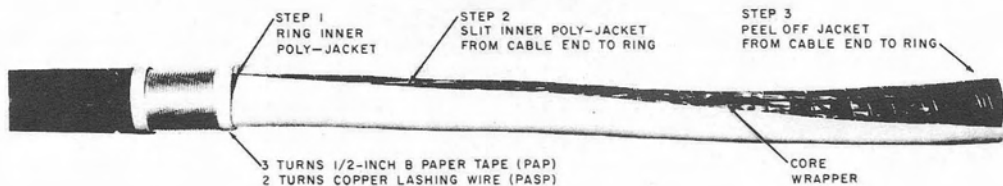

Fig. 11— Cutting and Removing Inner Poly-Jacket
4.03 Cut and remove the inner poly-jacket as shown in Fig. 11. Exercise care not to damage the conductor insulation.